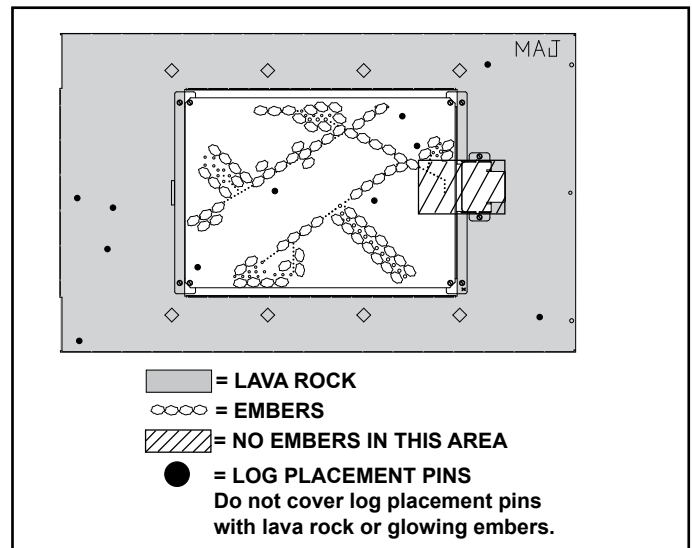

Figure 12. Lava Rock and Ember Placement
Place lava rock and glowing embers as shown in Figure 12.
- Embers may only be placed in areas as shown in Figure 12. Care should be taken not to cover the lighting trail of ports near pilot assembly as shown in Figure 12.
- When placing Glowing Embers® onto the burner, care should be taken so that the ports are not covered. Place the dime-size ember pieces. See Figure 12. Failure to follow this procedure will likely cause lighting and sooting problems.